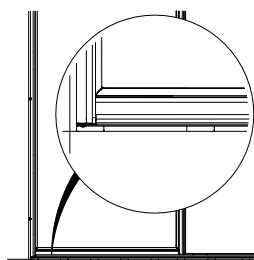

Figure 13: Shim element at all block points
13. Place blocks under the threshold at each drainage hole in the track (every 250 mm) (figure 13).